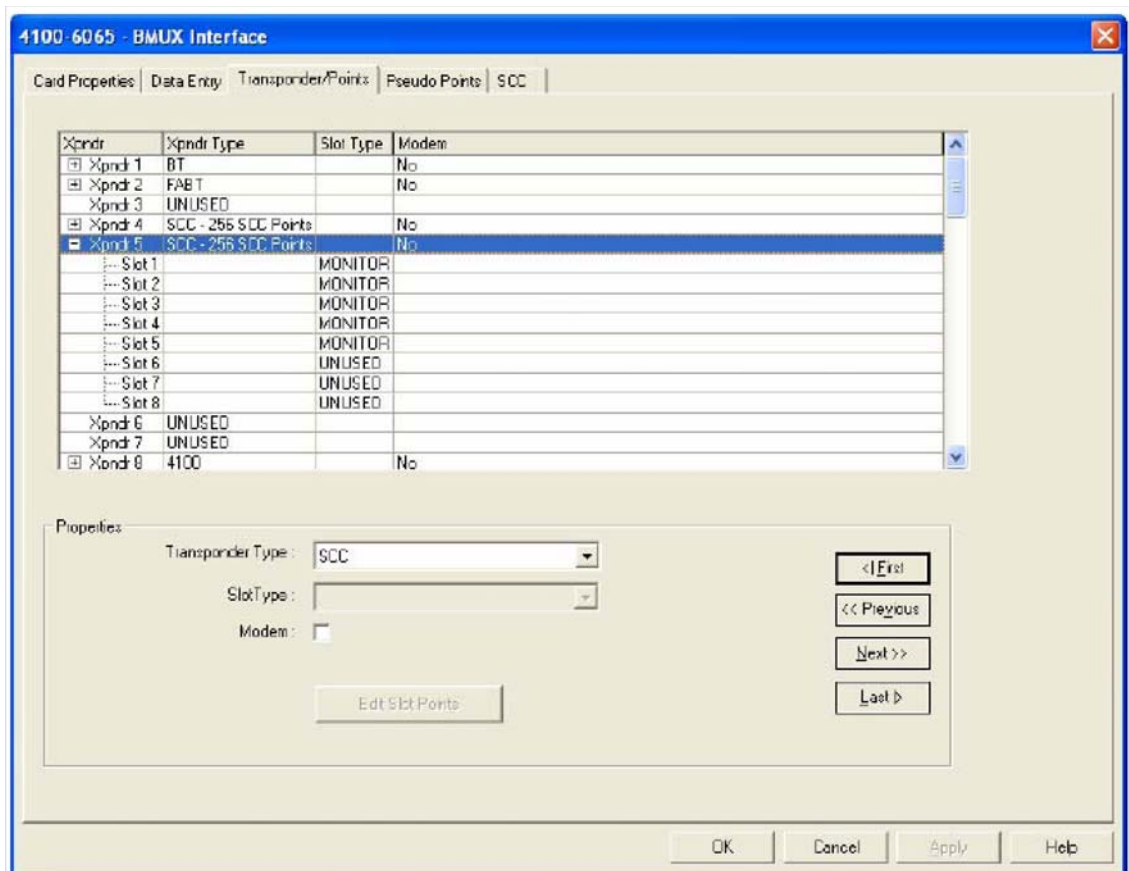

Figure 6-39. Transponder/Points Dialog
1. Click on the **Transponder/Point** tab of the 4100 6065 BMUX Interface. A dialog box appears as shown in Figure 6-39.